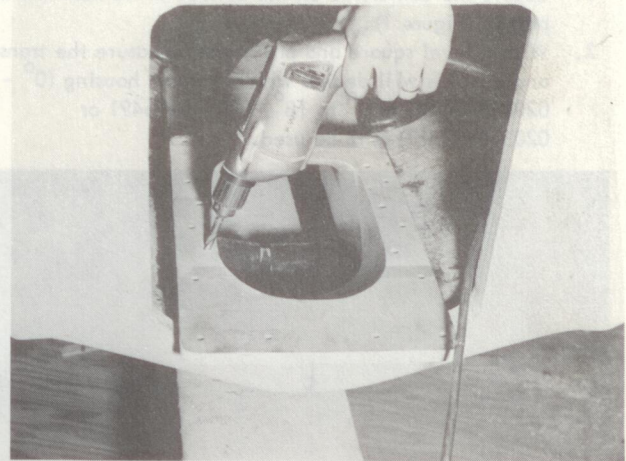
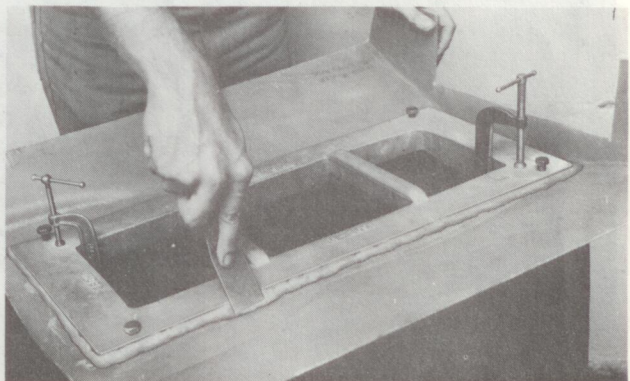

Figure 6
Figure 7
- In either event the filler should be mixed very thick so that it may be stacked in a pile with no resin run out. Stack the filler on both sides and rear of opening high enough so that some will be squeezed out all around. The front may be packed in after the thru-hull is in place. If the boat bottom is thin and has sagged it will be necessary to install several of the 1/4" fasteners at this time to true up the outside boat bottom. After the resin filler has jelled drill all of the 1/4" holes for the fasteners from the inside of the boat thru the pilot holes in the top flange of the intake adapter (Figure 6). The four leveling screws may be used to jackout the intake adapter so that the sealant may be applied for final installation. Counter-sink the outside boat bottom with a 1/2 inch counter-sink for the 1/4" flat head machine screws. Note: Fixture #0203-B-06506 may be used as a mold instead of the actual intake adapter (Figure 7).